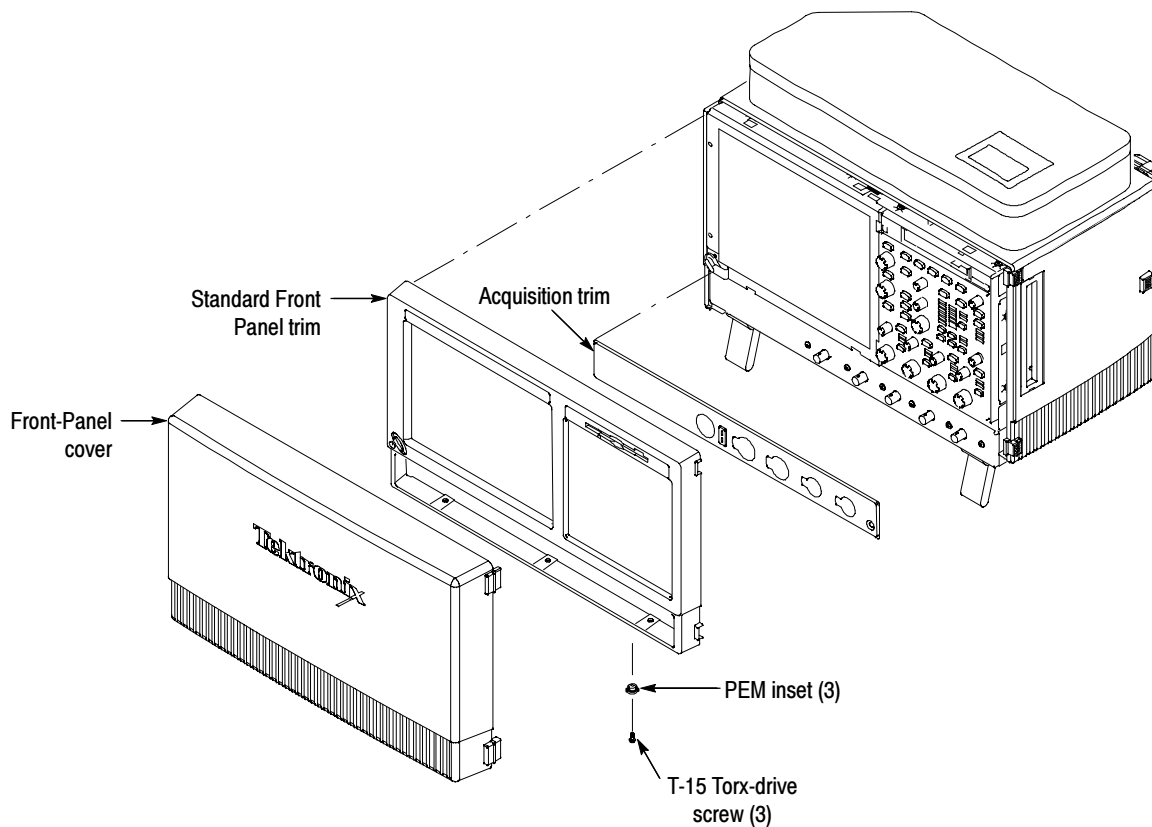

Figure 2: Trim removal
- b. Remove the three T-15 Torx-drive screws that secure the Front-Panel trim to the oscilloscope. See Figure 2 on page 7.
1. Locate the module to be removed: Locate the Front-Panel assembly, see Figure 2 on page 7. The following procedure replaces the Front subpanel and keypad with the new touch screen button: